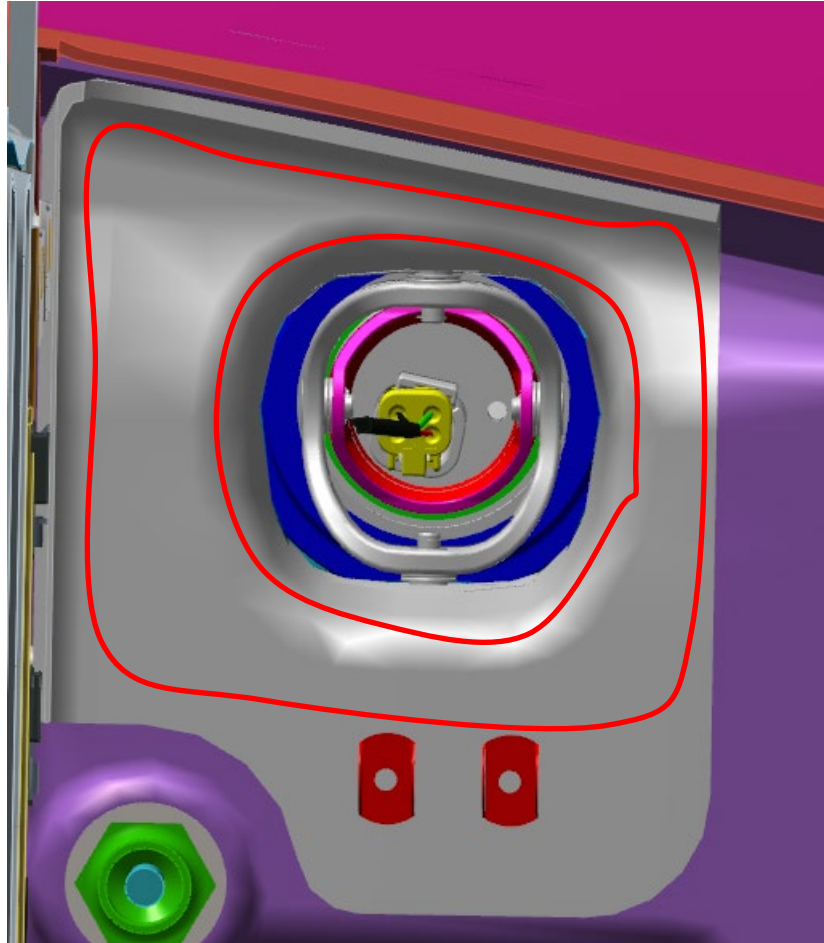

Figure 6 Bond prep area of wing fold tube.
- a. See the area between two red outlined areas in **Figure 6**.